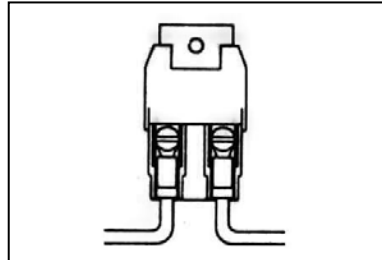

Figure 7-3 Maxi Fuse
7.4.1 With crimping tool, attach Maxi Fuse (**Figure 7-3**) onto end of ENGINE SECTION (single) 10 ga. wire #916 (red) AFTER having routed wire from the Fuse Panel to the Starter Solenoid. This serves as a fuse to protect the entire harness. DO NOT OMIT IT!
- 8.2.1** With crimping tool, attach the Maxi Fuse (**Figure 7-3**) onto end of ENGINE SECTION (single) 10 ga. wire #916 (red) AFTER having routed wire (with or without ammeter) from the Fuse Panel to the Starter Relay. This serves as a fuse to protect the entire harness. DO NOT OMIT IT!